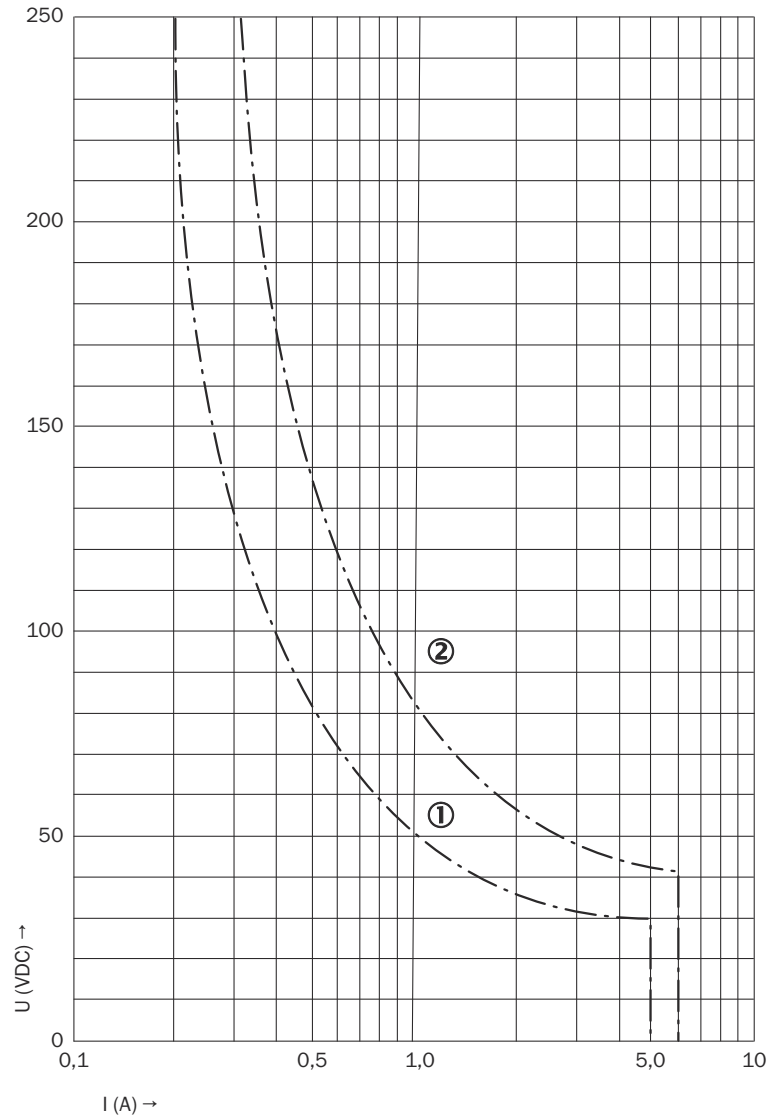
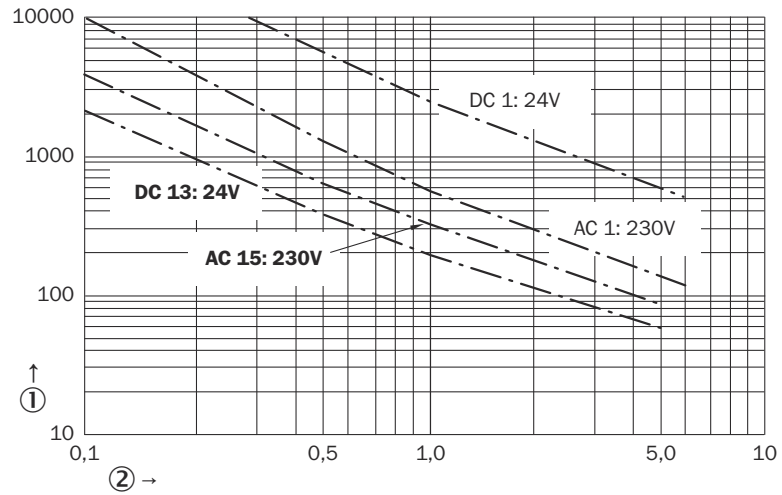

Figure 10: Switch-off delay without continuous arcing
Figure 11: Electrical endurance of contacts 13/14 and 23/24
3) If service life curve is adhered to, see figure 11, page 27.
Switching current for enabling current paths	10 mA ... 6 A, see figure 10, page 26 , see figure 11, page 27
DC switching capacity	0.1 W ... 200 W, see figure 10, page 26